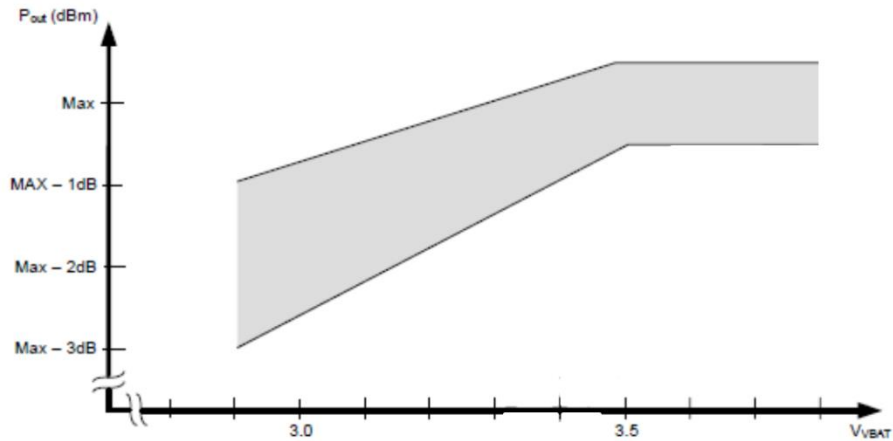

Figure 2: Output Power vs. VDD voltage
2. TX Output power varies with temperature as shown in Figure 2